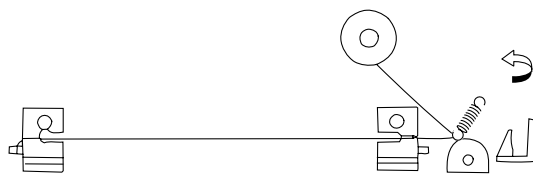

Figure 4-326
- 6) Hook the charging wire on the charging wire positioner at the rear; then, hook the wire on the charging wire tensioning spring as shown in Figure 4-326, and twist it.